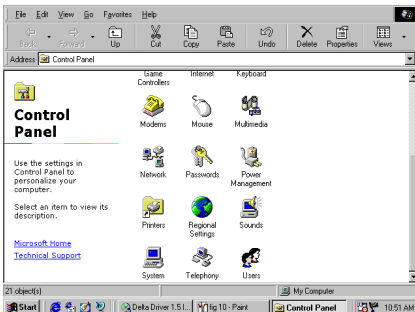

Figure 11
- Click “Start” → select “Settings” → then click “Control Panel” the following screen will appear Figure 11.